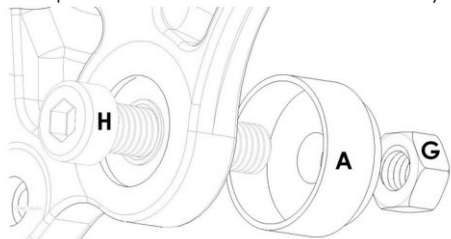

Fig. 3
1. Place the links flat on your bench and assemble the bearing removal tools as shown in fig. 3. Use an Allen wrench and open wrench to draw the bearings out of the links. Repeat this process for the lower link bearings, chain stay yoke bearings and seat stay bearings (Use tool "B" in place of tool "A" for the smaller Seat Stay Yoke bearings) as needed.